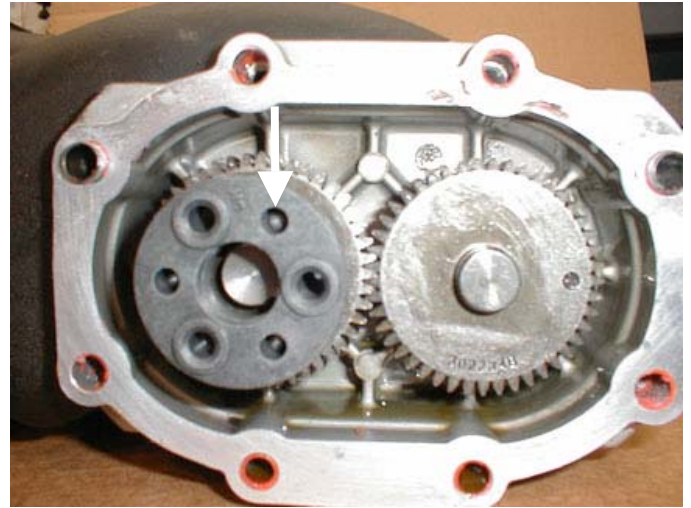

Figure 11
4. Remove the Phenolic block from the supercharger gear by pulling it straight off of the attachment pins (Figure 11).